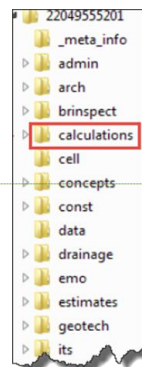

Figure 1 -
- ~~(2)~~(6) Enter the final quantity when the contract quantity differs from the final quantity.
- ~~(4)~~(7) Reference all backup documentation per CPAM 5.13.5 by EDMS number in the Remarks column.
- ~~(5)~~(8) Use the Excel spreadsheets included in the **CADD_[FPID].zip** or **BIM [FPID].zip** file, in the **Calculations** directory (see Figure 1) to add a new **Plan Summary Box** to the **Final As-Built Plans**. Refer to the CADD Manual. See Attachment 5.13-1.